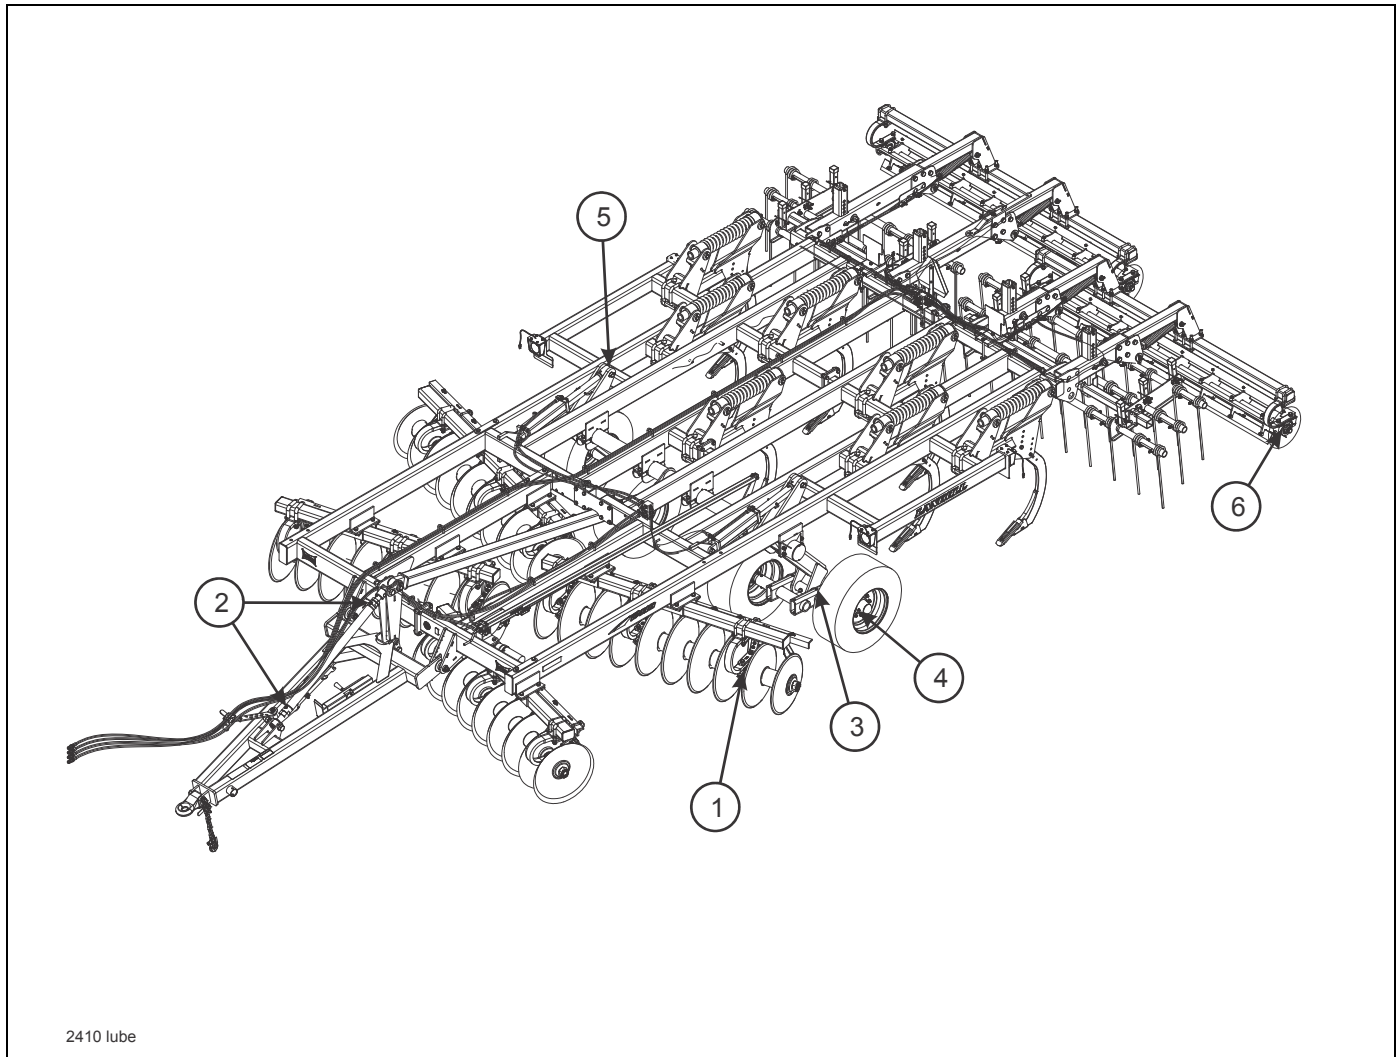

Figure 4-11: Lubrication Schedule
1. **Table 4-1** specifies the lubrication points and intervals on the 2410 Weatherproofer I. Proper maintenance of your machine will, under normal operating conditions, help to keep it operating at or near its peak performance for an extended period of time. Proper maintenance is also a condition of keeping your warranty in good status **(See Figure 4-11.)**